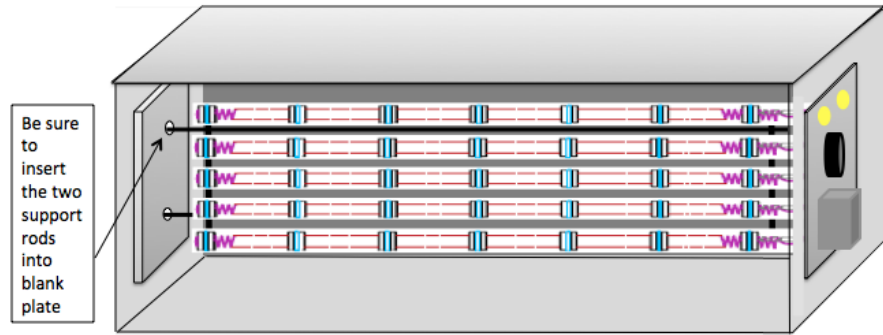

Figure 6
Plenum System: The plenum stand-a-lone cabinet is the same cabinet that is used with the ducted system except in this configuration the air is discharged out the bottom of the cabinet as shown in (figure 6).
3. Before installing cabinet, make sure to install the electric element (see figure 6) and blank plate in the cabinet using the 6 x 3/8" sheet metal screws to secure in place. *Be sure to install element so that electrical access is possible after the elbow is installed.*